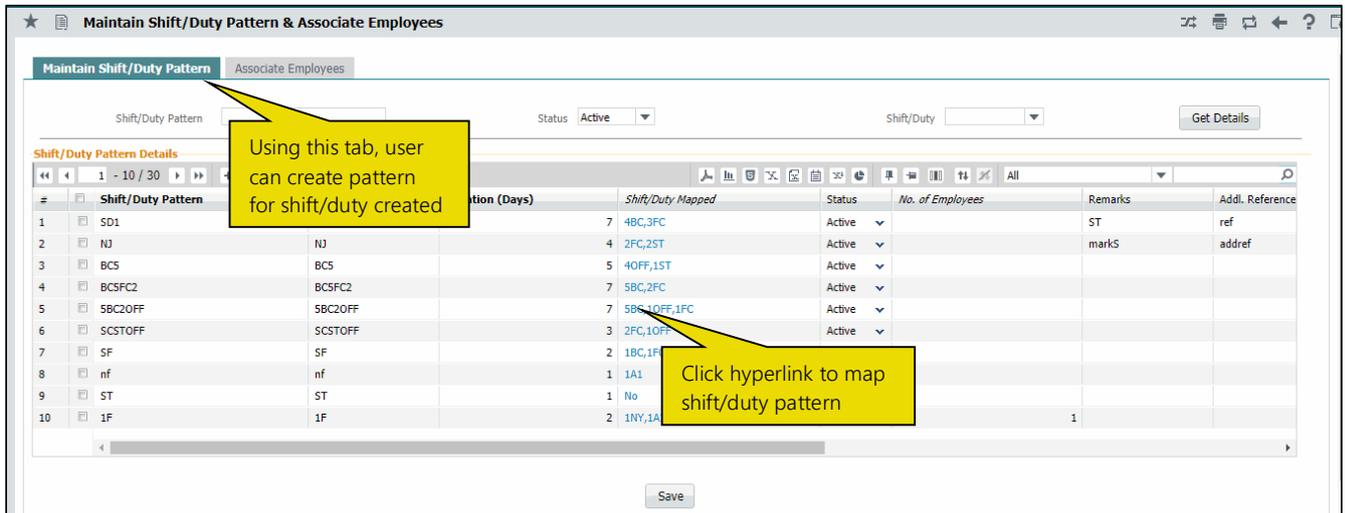

Figure 2.3 Maintaining Shift/Duty Pattern & Associating Employees
1. Select **Maintain Shift/Duty Pattern & Associate Employees** under **Roster Management** business component. The **Maintain Shift/Duty Pattern & Associate Employees** page appears. See *Figure 2.3*.